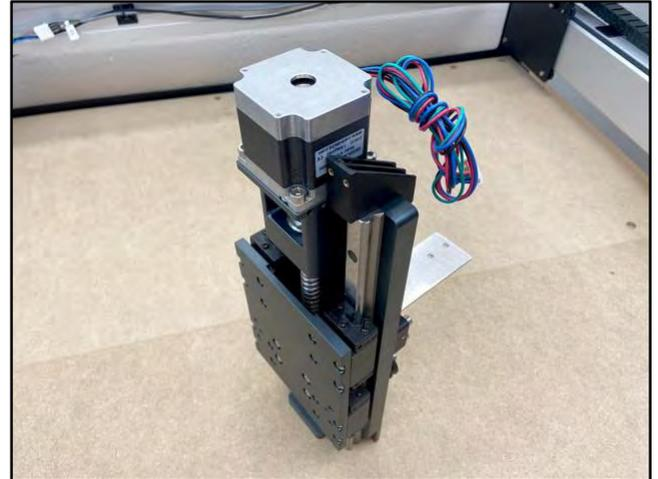
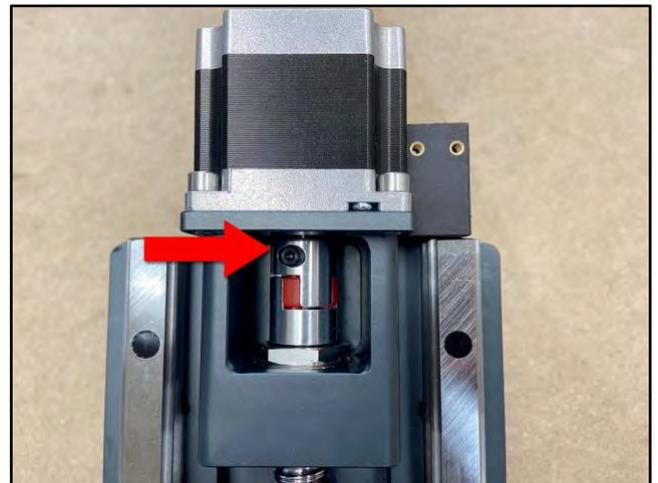

Figure 13
Figure 14
1. Install the Z-motor at the top of the HDZ. See *Fig. 13* and *Fig. 14*.